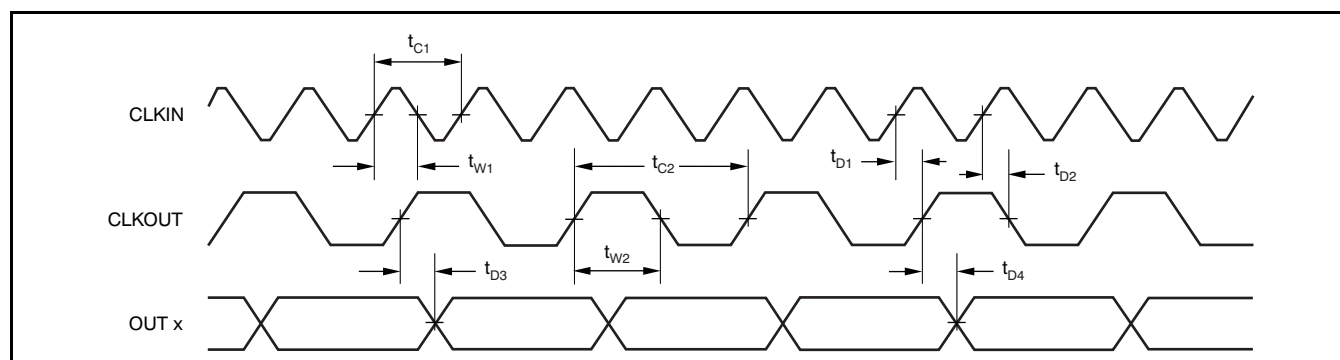

Figure 1. ADS1204 Timing Diagram
(1) Applicable for 5.0V nominal supply: $\text{BV}_{\text{DD}}(\text{min}) = 4.5\text{V}$ and $\text{BV}_{\text{DD}}(\text{max}) = 5.5\text{V}$. All input signals are specified with $t_{\text{R}} = t_{\text{F}} = 5\text{ns}$ (10% to 90% of BV_{DD}) and timed from a voltage level of $(V_{\text{IL}} + V_{\text{IH}})/2$. See Figure 1.
(1) Applicable for 3.0V nominal supply: $\text{BV}_{\text{DD}}(\text{min}) = 2.7\text{V}$ and $\text{BV}_{\text{DD}}(\text{max}) = 3.6\text{V}$. All input signals are specified with $t_{\text{R}} = t_{\text{F}} = 5\text{ns}$ (10% to 90% of BV_{DD}) and timed from a voltage level of $(V_{\text{IL}} + V_{\text{IH}})/2$. See Figure 1.